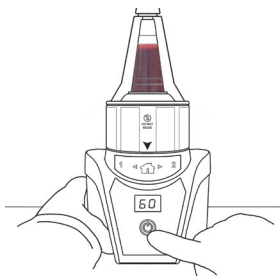

Figure 7
- Initiate centrifugation by pressing the Activation Button  (Figure 7).